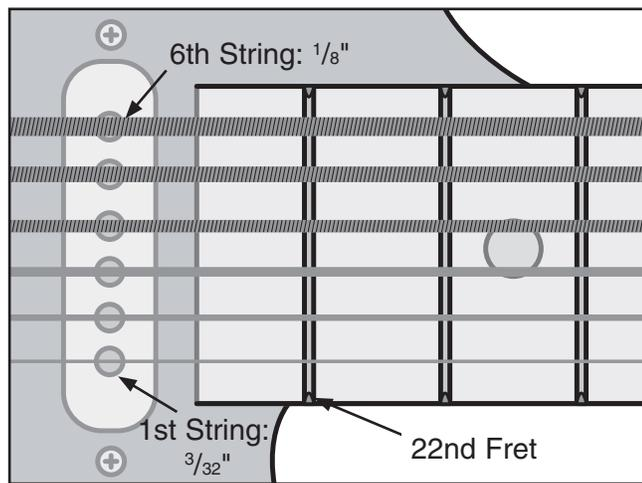

Figure 34. String heights over the pickup.
1. Measure the height of the 1st and 6th strings at the pickup while the strings are “fretted” at the 22nd fret (see **Figure 34**).